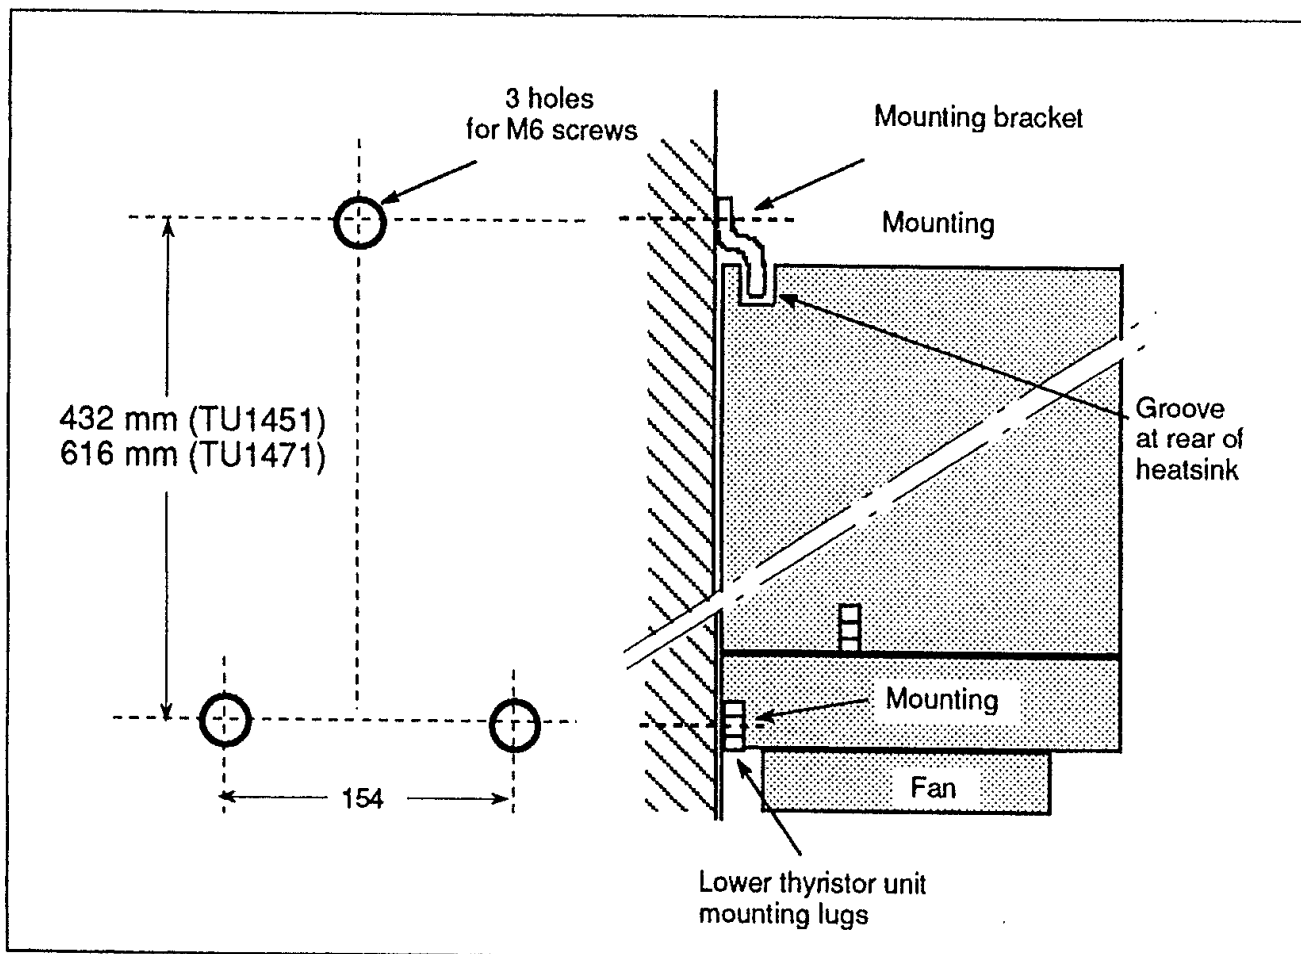

Figure 2-3 Thyristor unit drilling and mounting values (in mm). Bulkhead mounting
- Fit the two M6 lower screws in the cabinet, observing the drilling values (figure 2-3).